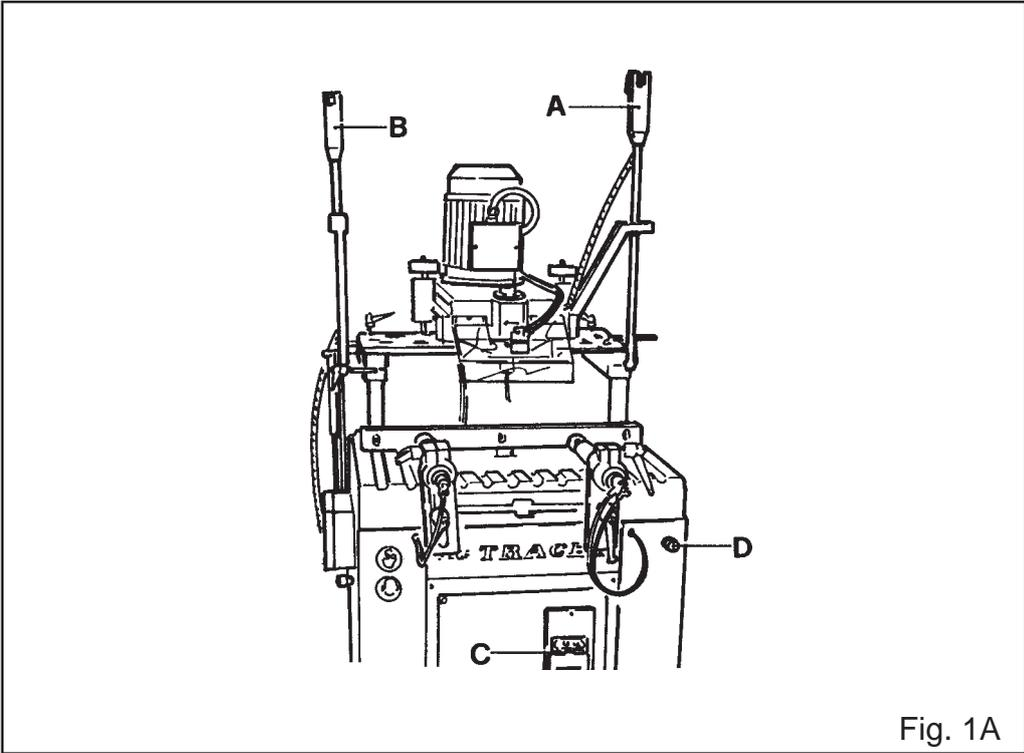

Fig. 1A
- A (Fig. 1A) = Knob
- B (Fig. 1A) = Knob
- C (Fig. 1A) = Overload Protection
- D (Fig. 1A) = Clamping Off / On Selector